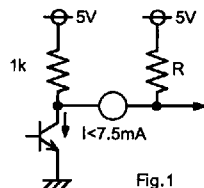

Fig.1
4. The terminal of H, V output pin are shown as Fig.1. It is possible to reduce rise time by insert the resistor between  $V_{cc}$  line and H, V output Pin, but set the value of resistor in order that the current is under  $7.5 \text{ mA}$ . Setting the value of R is more than  $2\text{K}$  as shown in Fig.1 .